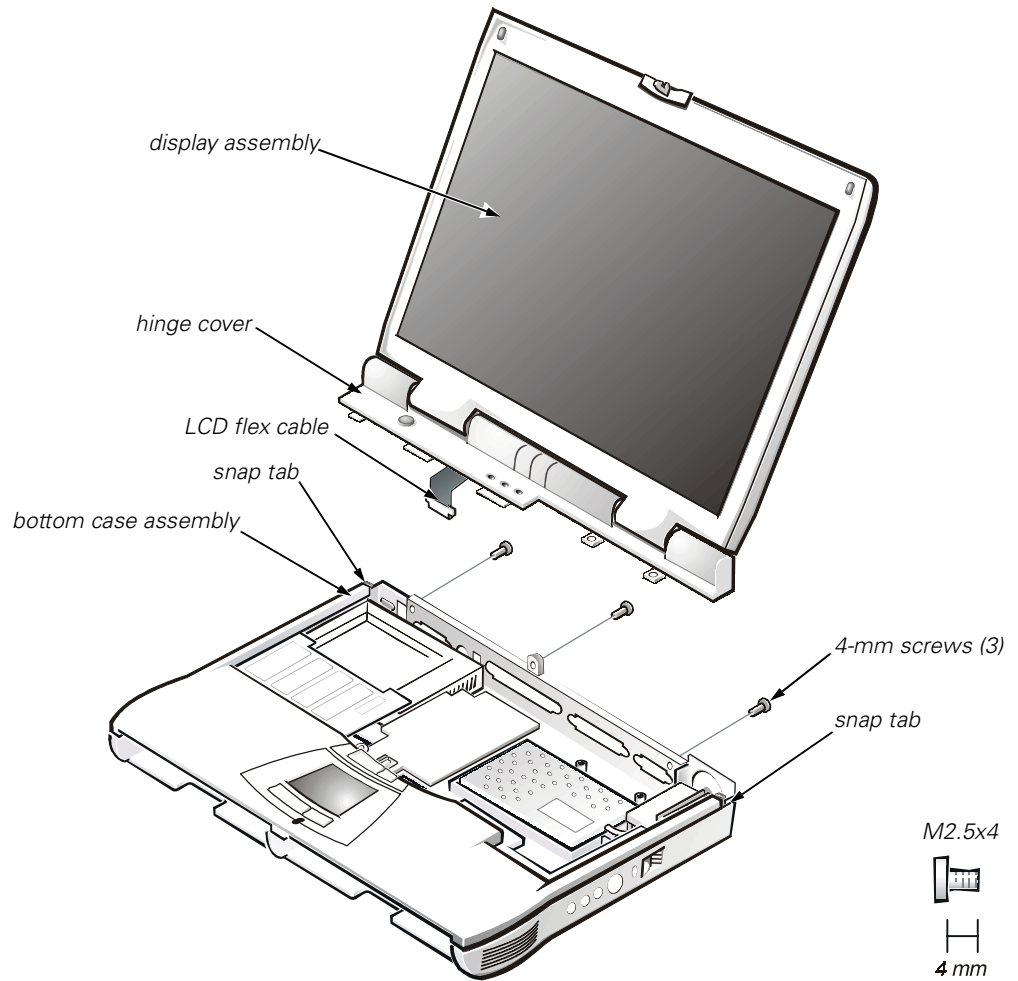

Figure 13. Display Assembly
3. Remove the three 4-mm screws, labeled with a "circle D," from the back of the computer (see Figure 13).
Pry the hinge cover loose at the seam from the snap tabs on the bottom assembly (see Figure 13).